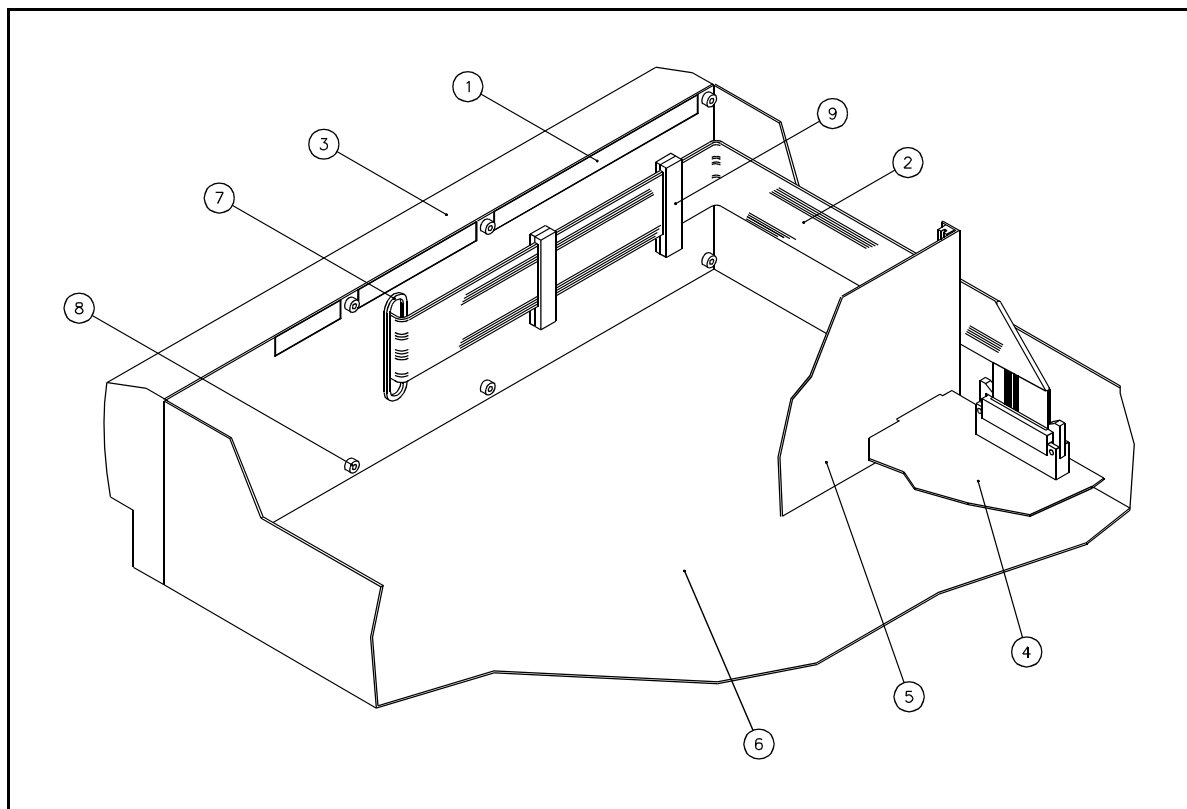

Figure 6.3 Keypad ribbon cable
- Ensure that conductive EMC gasket (figure 6.3 [1]) is intact at front of chassis.
- Remove 8 off screws (figure 6.3[8]) which fix the fascia to the chassis. Access to the bottom four screws may be gained via the slots in the underside of the chassis [14] using a 'ball-end' hexagon key.
- Lift fascia directly away from chassis to clear flow tube bottom end-blocks [7,8]. Disconnect keypad ribbon cable (figure 6.3[2]) from the Keypad PCB connector [45]. The fascia may now be lifted away from the chassis. Whilst working on the fascia lay it on a soft surface to prevent damage.
Refer to figure 6.3